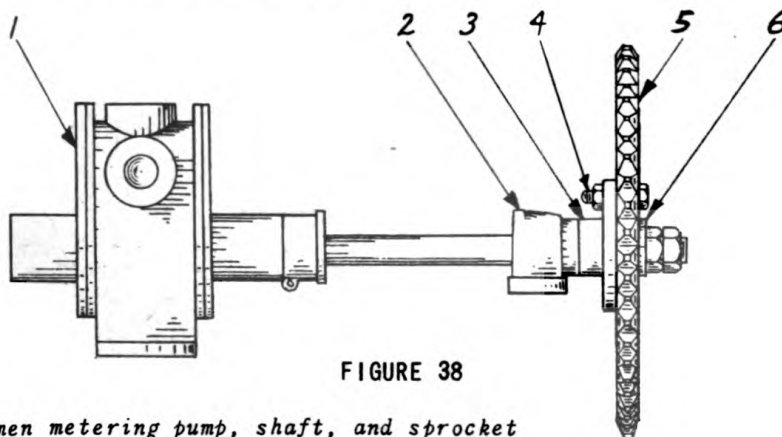

FIGURE 38
If the pump is started when the bitumen is cold and stiff, damage to the pump will result. A shear bolt (4) (Fig. 38) through the pump sprocket is provided as a safety measure, since it will break when load is too great. This is a standard 3/16" x 1-1/4" hex head cap screw. Whenever this bolt breaks, it is a warning of trouble somewhere - the asphalt is too cold and stiff, or foreign material may be in the pump; therefore, the trouble should be corrected before trying to continue to operate. If the flow from the nozzle is not steady and uniform, the strainer should be checked to see if it is clogged, or possibly the outlet may be clogged inside the tank. Sometimes an air leak in the line will also cut down the flow. It is necessary to keep the strainer clean at all times and this should be checked before every run. The spray nozzle on the spraybar should also be cleaned after using.
The speed and therefore the capacity of the Kinney pump is varied by changing the driver sprocket or the pump sprocket. There are two sizes of driver sprockets, both of which are of the split type so that they may be replaced easily on the pugmill pinion shaft without disturbing any other part of the shaft. The pump sprocket (5), (Fig. 38) fits on the end of the pump shaft and is secured to a hub (3) by a  $3/16"$  x  $1-1/4"$  hex head cap screw, (4) nut and lock washer which acts as a breaker bolt to protect the pump from overload.